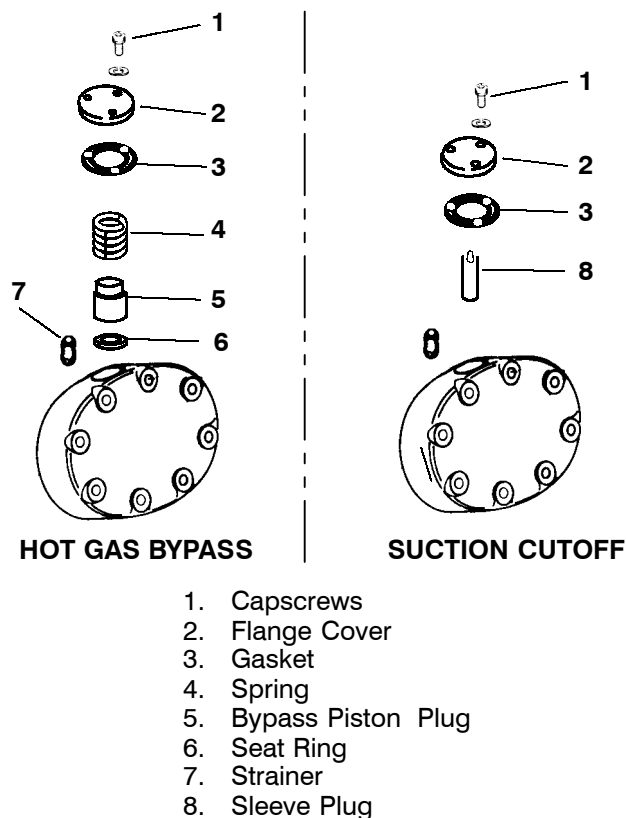

Figure 2-1. Removal of Piston Plug
a. Remove the three socket head capscrews holding piston plug to cylinder head of the replacement compressor. See Figure 2-1.